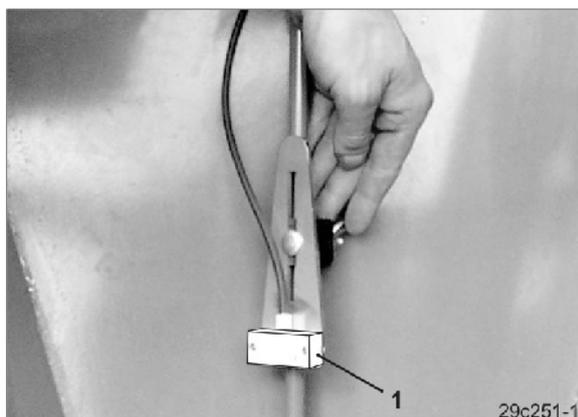

Fig. 78
- Foldable sieve in seed hopper with sieve lock (Fig. 78/1).
The height of the level sensor can be adjusted (Fig. 78/1) in the seed hopper. The residual seed volume can be set, at which the warning message and the alarm signal is to be emitted.